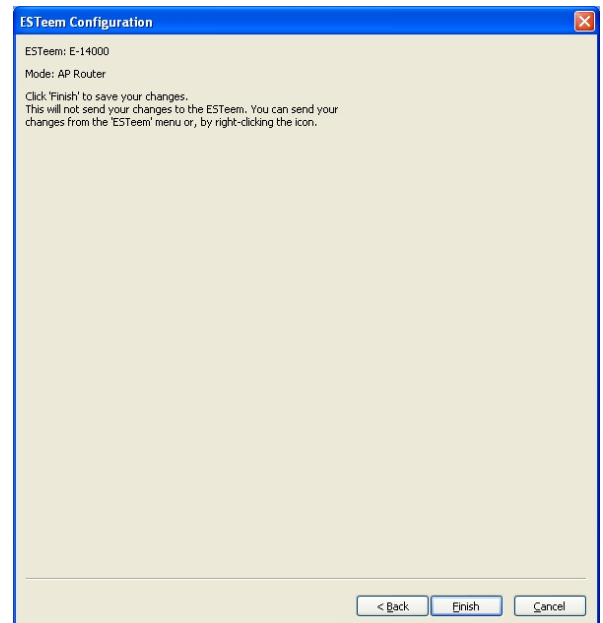

Figure 22: ESTeem Summary Page
- Continue through the configuration screens setting the AP Router addressing to match the IP address ranges for your network. For help with setting the router addressing please refer to Router Address Examples later in this chapter. You will end on the screen in Figure 22. Press the Finish button to return to the configuration page.